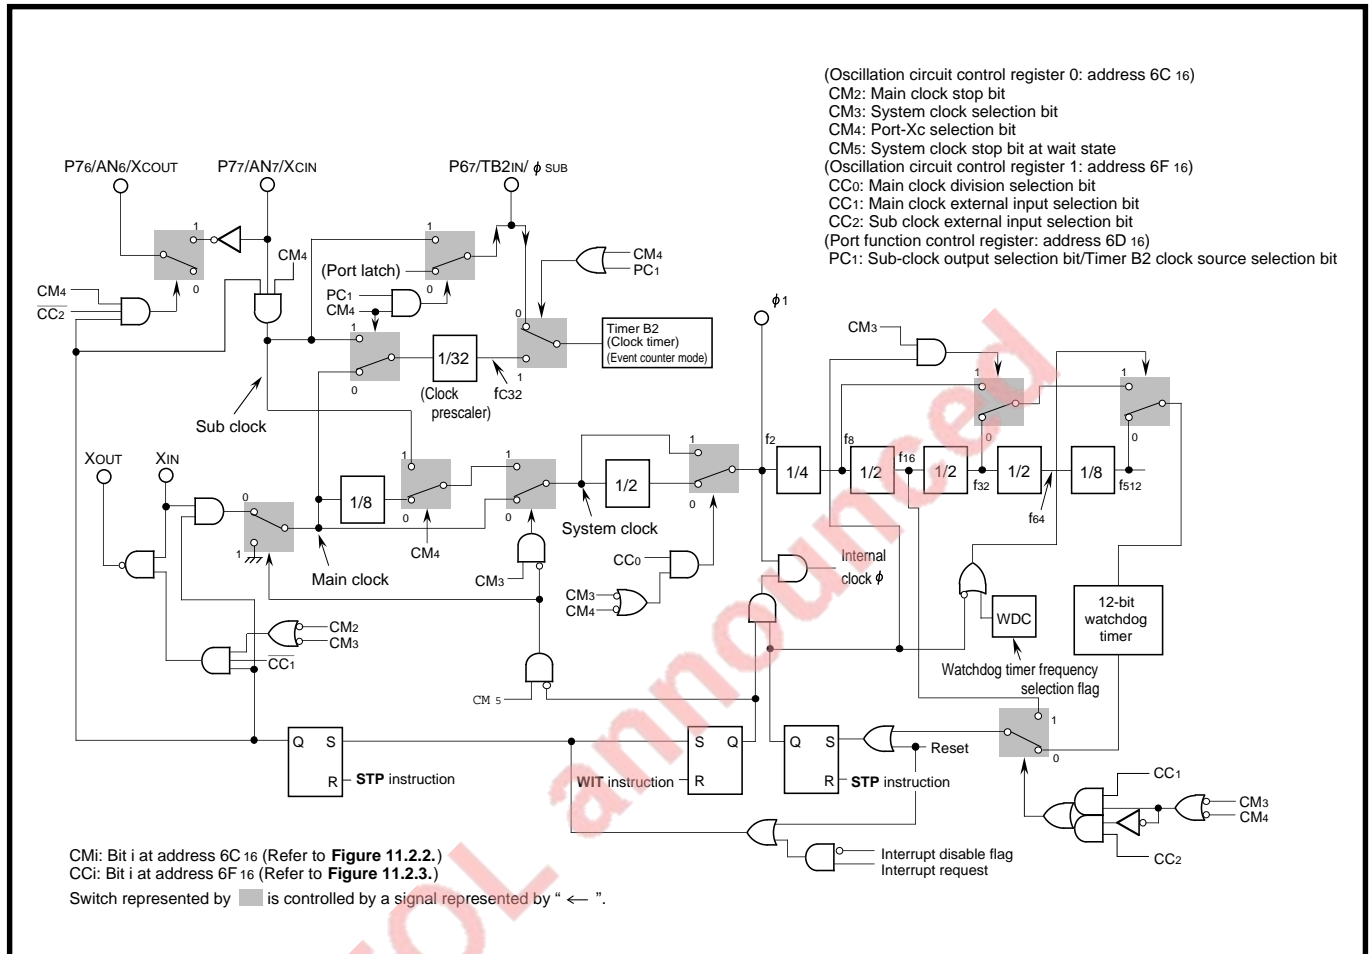
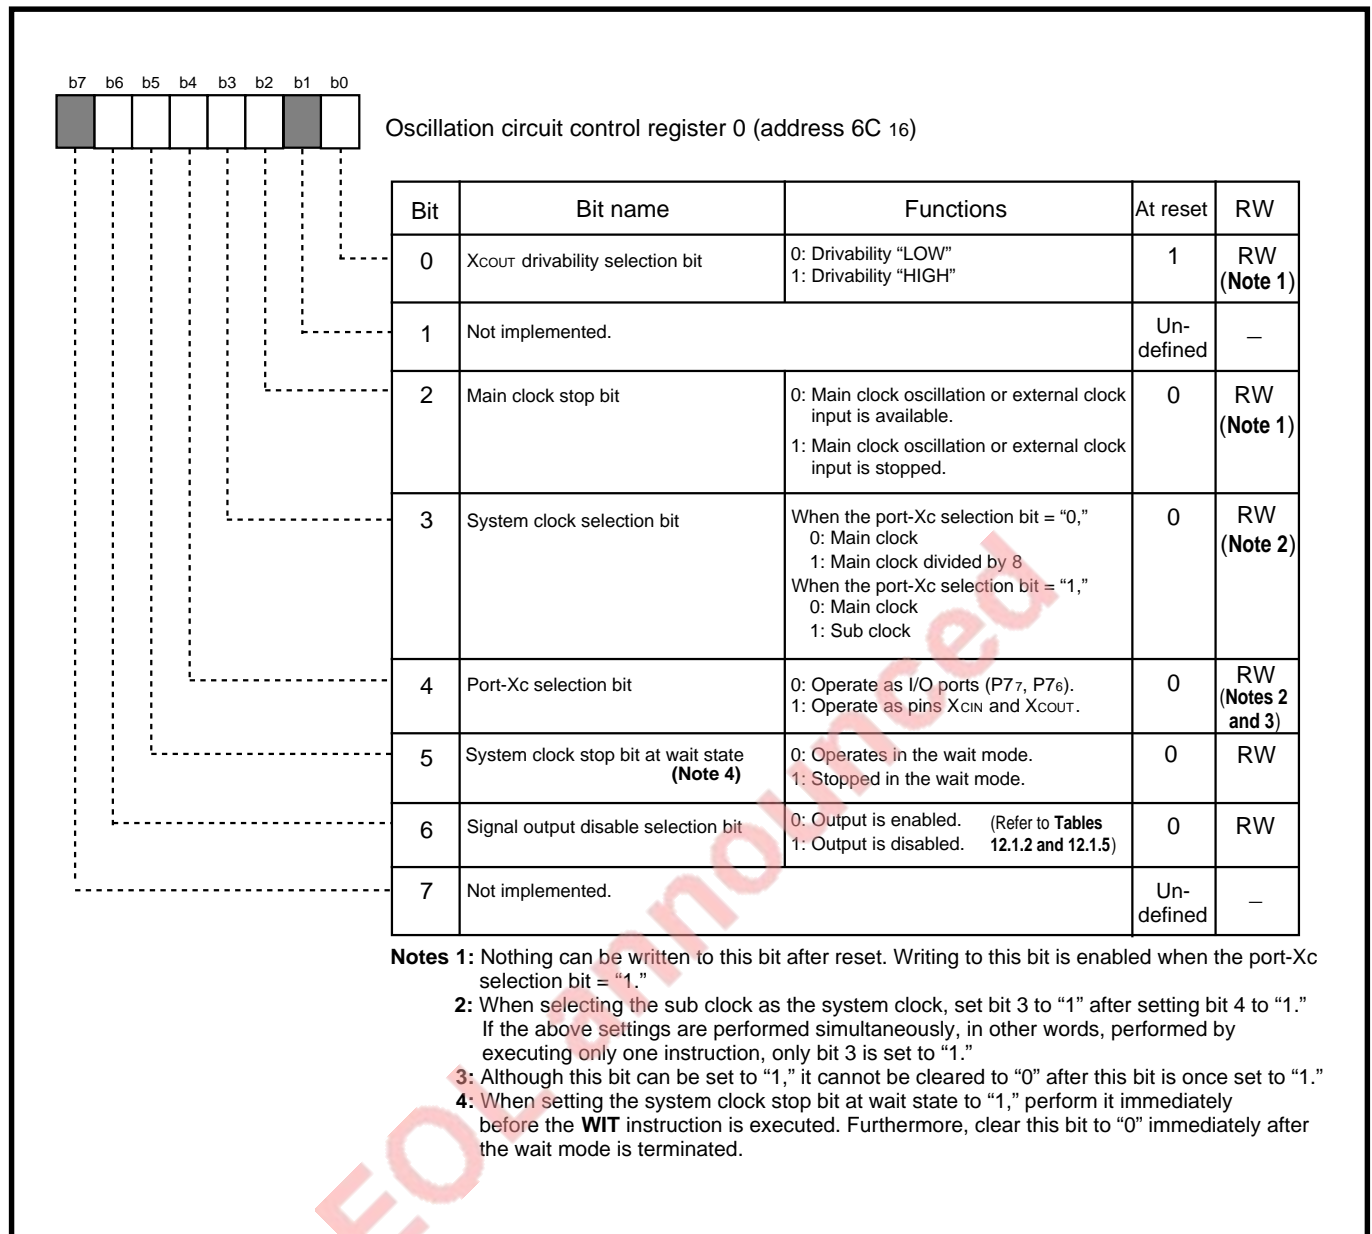

Fig. 11.2.1 Block diagram of clock generating circuit (with STP and WIT instructions)
Fig. 11.2.2 Structure of oscillation circuit control register 0
Clocks f2 to f512, clock  $\phi$ \*2: Refer to **Figure 11.2.1**.
Figure 11.2.1 shows the block diagram of the clock generating circuit (with the **STP** and **WIT** instructions). Figures 11.2.2 and 11.2.3 show the structures of the oscillation circuit control register 0 and oscillation circuit control register 1, respectively.
Clocks f2 to f512\*1, clock  $\phi$ \*2: Refer to **Figure 11.2.1**.
- ① When an interrupt request occurs, an oscillator starts oscillating. Simultaneously, supply of clocks  $f_2$  to  $f_{512}$  starts.
- ② By start of oscillation, the watchdog timer starts counting. The watchdog timer counts  $f_{32}$  when the system clock selection bit (bit 3 at address 6C16; Refer to **Figure 11.2.2.**) = “0” or  $f_8$  when the system clock selection bit = “1.”
- ③ When the watchdog timer’s MSB becomes “0,” supply of internal clock  $\phi$  starts. At the same time, the watchdog timer’s count source returns to a count source (clock  $f_{32}$  or  $f_{512}$ ) which is selected by the watchdog timer frequency selection flag (bit 0 at address 6116).
- ④ The interrupt request which occurs in ① is accepted.